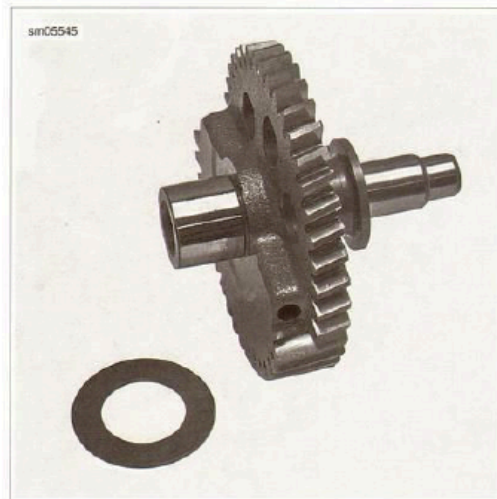

Figure 3-155. Top Balancer
2. See Figure 3-155. Install the inner washer on the balancer crankcase side shaft.